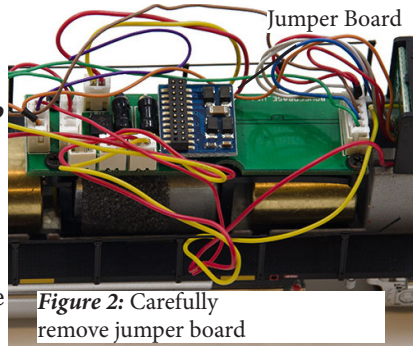

Figure 2: Carefully remove jumper board
2. Remove the jumper board from the locomotive's 21MTC pins. **(Figure 2)** The jumper board allows the loco to operate on a standard DC track or in analog mode on a DCC track. **If the loco also has a 8pin NMRA socket, any jumpers should also be removed.**